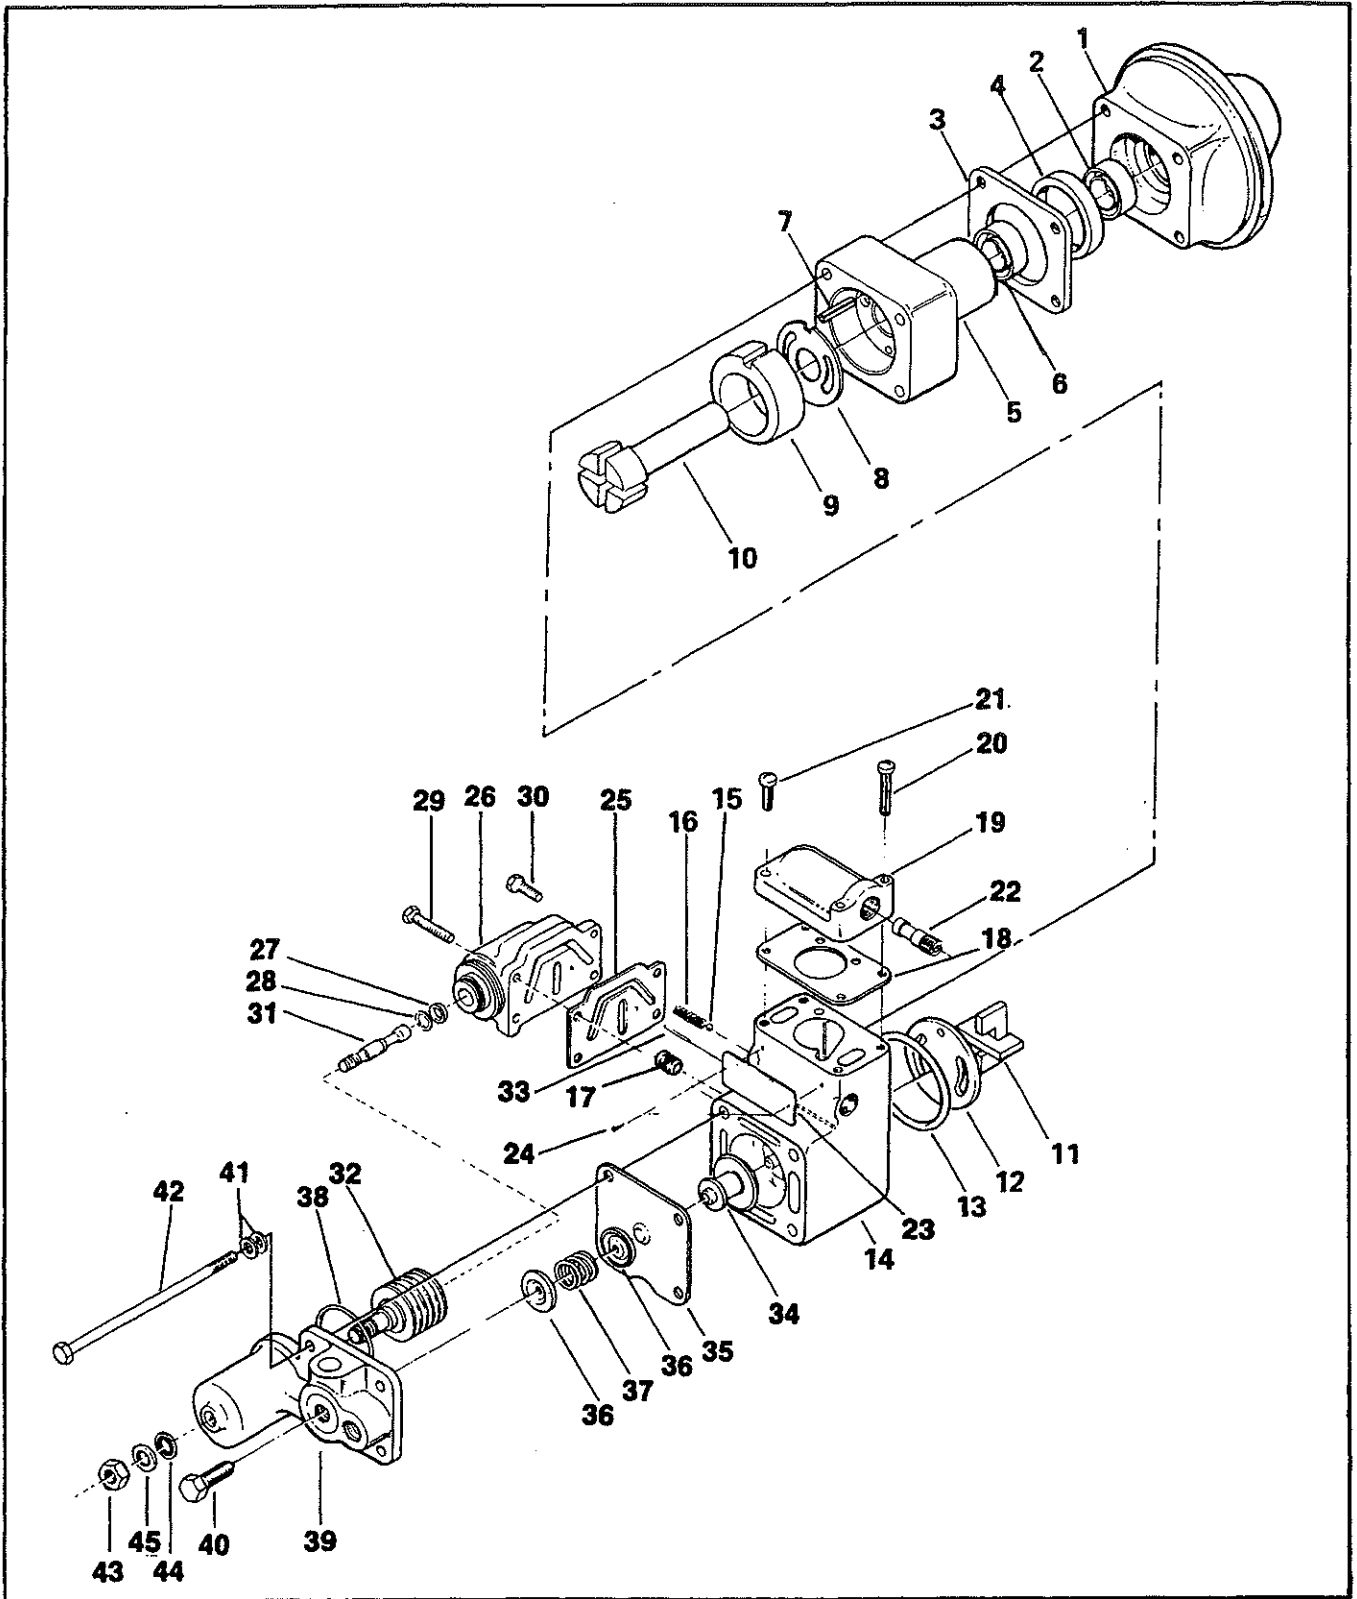

FIGURE 40-02. FUEL PUMP ASSEMBLY.
A. Place pump assembly in a suitable fixture and remove all lockwire. Refer to Figure 40-02. Remove screw (40) from cover (39) to release spring pressure. Remove nut (43), plain washer (45) and seal washer (44), from aneroid adjusting screw. Remove four bolts (42) from pump assembly and vapor separator relief valve aneroid assembly (14 through 43). Remove this section from basic pump assembly (5 through 13). Separate cover (39) from body (14) and (26) while screwing down on aneroid (32). Use care when removing cover so as not to stretch aneroid (32) or compress it by screwing it too far into cover (38) prior to separation from body (26).
B. Remove screws (29 & 30), variable orifice body (26), gasket (25) and "O" ring (38). Pin (33) must be removed so aneroid (32) and rod (31) can be withdrawn from body. The rod seal (27) and retaining ring (28) can be removed for replacement by soaking the variable orifice body (26) in a mixture 80% Glacial Acetic acid and water, then scrape off the softened epoxy, if epoxy was used. Remove ball (15), and spring (16) from vapor separator body. It is not necessary to remove (17) unless damaged or loose. Remove screws (20 & 21), cover (19), gasket (18) and ejector (22).
C. Disassembly of the basic pump should be accomplished in the following manner. Refer to exploded view (Figure 40-02) and remove the adapter (1) and insulator (3) from the basic pump. Remove seal (2) from adapter (1) and bushing (4) from insulator (3). Hold pump body firmly in palm of hand, end plate (12) down, and apply pressure to drive end of rotor shaft (10) forcing end plate (12), end plate seal (13), blades (11) and shaft (10) from pump body. Remove seal (6) and discard. It is important to note the liner position relative to the rotation marking found on the top surface of the liner. It must be installed with the proper marking (C or CC) in the up position.
A. Reassemble basic pump (5 through 13) in reverse order of disassembly. Refer to Figure 40-02, and install seal (6) in body (5). Install pin (7), plate (8) and liner (9) in body (6). Be sure liner is installed with proper rotation lettering visible. Use light machine oil to lubricate shaft (10) and install in pump. Install blades (11) in position and lubricate lightly. Install plate (8) and seal (13) to complete basic pump assembly. Install seal (2) in adapter (1). Install bushing (4) and insulator (3) on pump assembly and insert pump assembly (3 through 13) into adapter assembly (1).